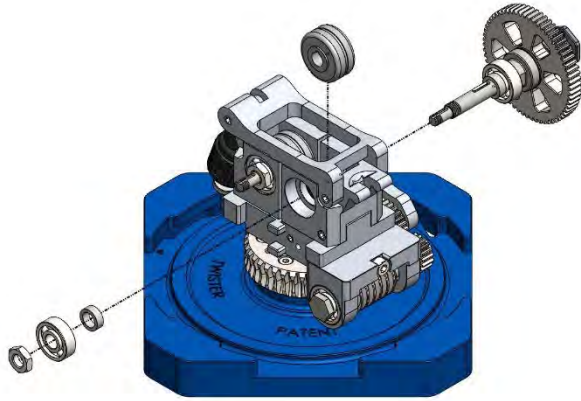

Figure 47
3. Extract the shaft longitudinally, possibly leaving the bearing, the spacer and the key in the appropriate seats. If not, reposition the elements on the shaft as shown in the figure. Once this operation has been carried out, remove the contact wheel. Figures 47 and 48;